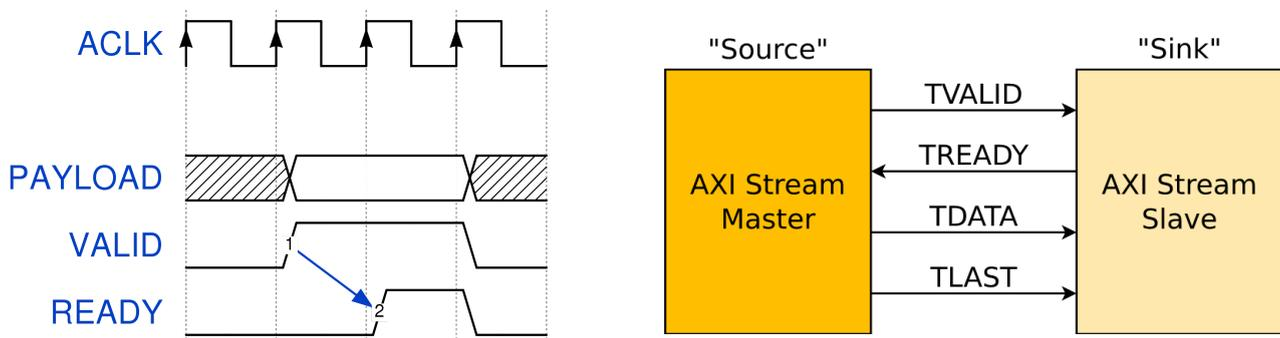

Figure 10: Left: **AXI Stream** timing diagram⁸ – Right: **AXI Stream** connections⁹
- AXI Stream Interface:** This implements the point-to-point communication mentioned above. **AXI Stream** interfaces are very simple to implement. In their most simple form they consist of two hand-shake signals plus N data signals. You would use a stream interface, when you want to make a fixed and unidirectional link between two blocks which should support high data rates. In our project, we for example use an **AXI Stream Interface** to transmit the data samples from the **Pulse Threshold** to the **Pulse Integrator** block. Properly implemented, **AXI Stream Interfaces** allow transmitting data on every clock cycle, hence the high data rate. Figure 10 shows a simple **AXI Stream** transaction.